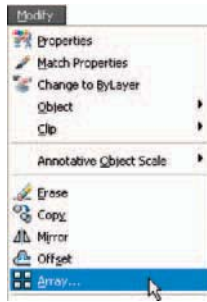
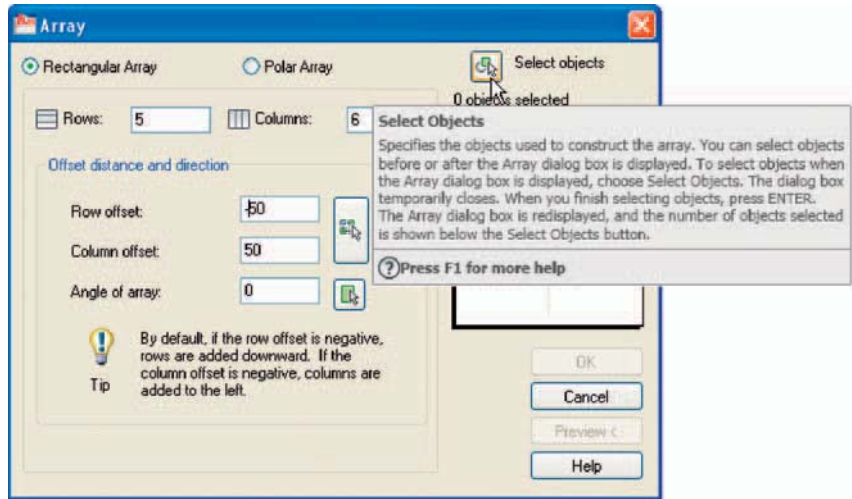

Fig. 5.16 Selecting **Array** from the **Modify** drop-down menu
Fig. 5.17 First example – the **Array** dialog
First example – Rectangular Array (Fig. 5.17)
- Call the **Array** tool – either *click Array* in the **Modify** drop-down menu (Fig. 5.16), from the **Home/Modify** panel, *pick the Array* tool icon from the **Modify** toolbar, or *enter ar* or *array* at the command line. The **Array** dialog appears (Fig. 5.17).